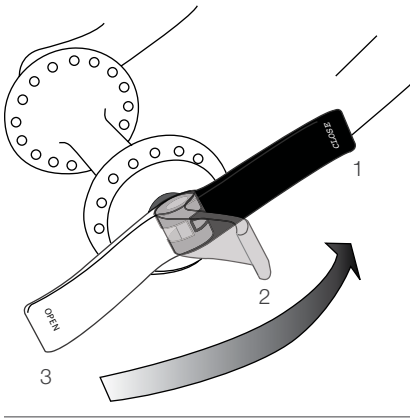

Figure 40. Lever positions:
1. Move the lever of the quick-release to the OPEN position (Figure 40, #3) and set the wheel so it fully touches the inner surfaces of the fork ends.
2. With the lever in the adjustment position (Figure 40, #2), tighten the adjustment-nut (Figure 27) until it is slightly tight.
3. Lock the quick-release; with the lever in the palm of your hand, move the lever to the CLOSE position (Figure 40, #1).